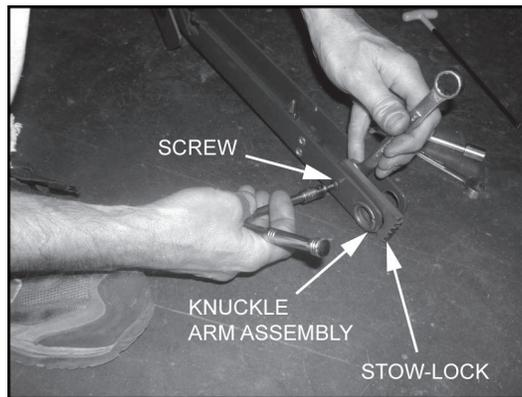

FIGURE 3-29
7. Refer to **Figures 3-29**. Remove screw, nut and three plastic washers to detach stow-lock latch from knuckle arm assembly. Retain attaching hardware for installation.